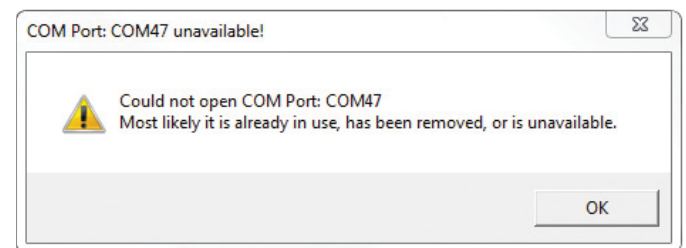
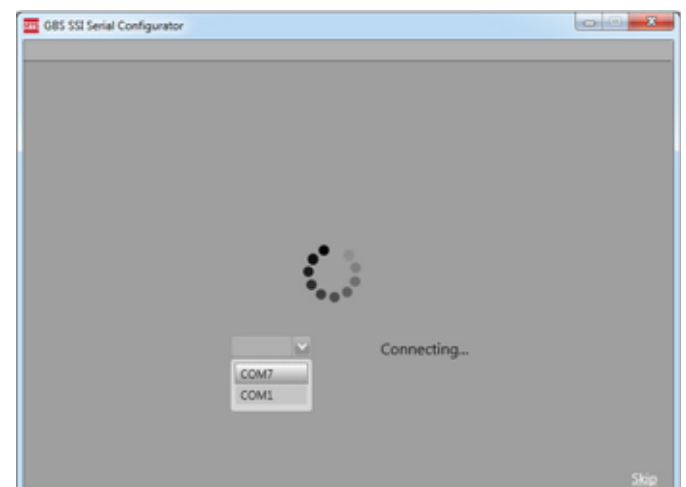
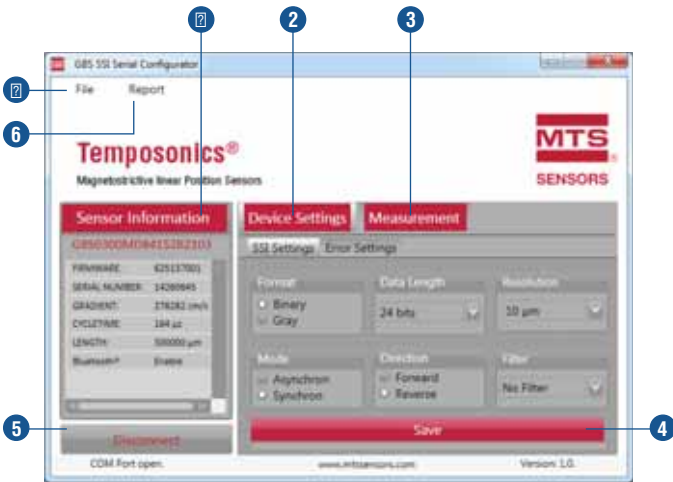

Fig. 27: Error message COM Port is not available
Fig. 28: Select COM Port
Fig. 29: User interface GB Serial Configurator
After starting the program GBS SSI Serial Configurator the software connects to the last selected COM Port and the user interface opens (Fig. 29). If the COM Port is not available an error message appears (Fig. 27).
Select the right COM Port from the list (example see Fig. 28). The application will automatically restart and the user interface opens (Fig. 29).
- 1. **File** menu allows the following settings (see also Fig. 29):
SSI Settings (Fig. 29)